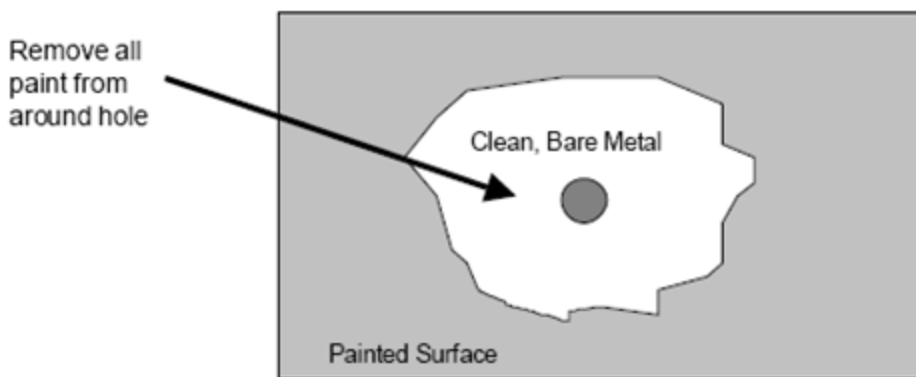

Figure 5: Mounting-Hole Paint Removal
- To ensure that the receiver enclosure is electrically at earth ground, remove all paint from the mounting-hole surfaces (refer to Figure 5)